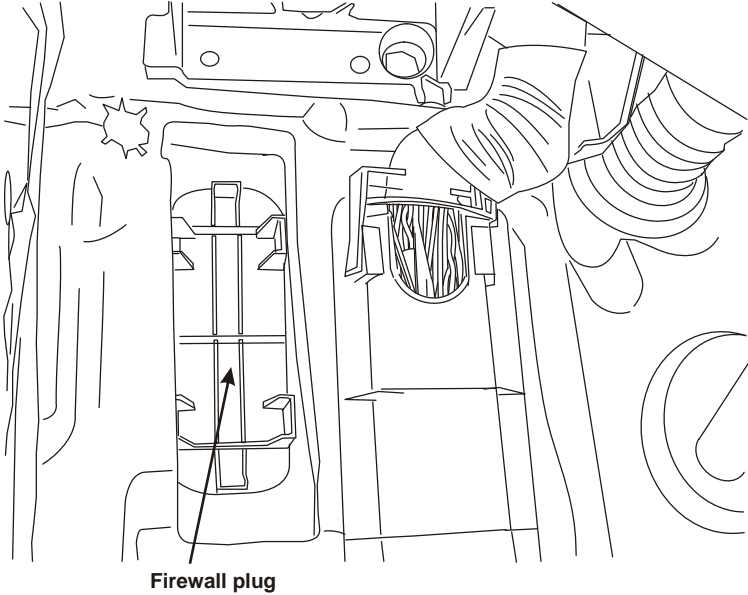

Figure 4.4
- Locate the black plastic firewall plug to the left of the steering column and drill a 3/4-7/8 inch hole in the plug to route the wires into the engine compartment (Figure 4.4).